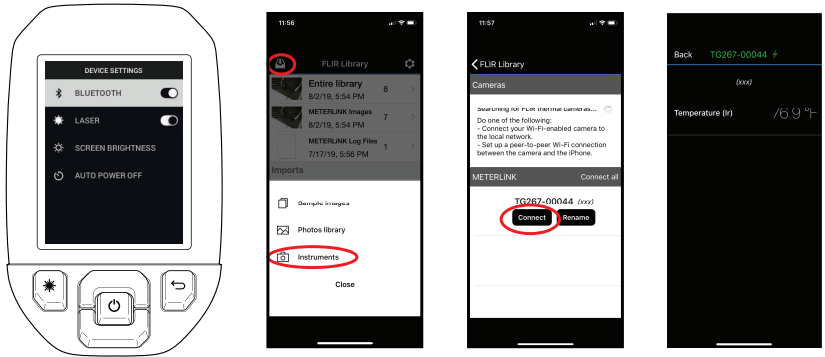

Figure 7.1 Pairing the TG275 with a Mobile Device
1. Switch the TG275 Bluetooth® function ON (*Settings/Device Settings*). See Figure 7.1, below, for illustrations supporting this section.